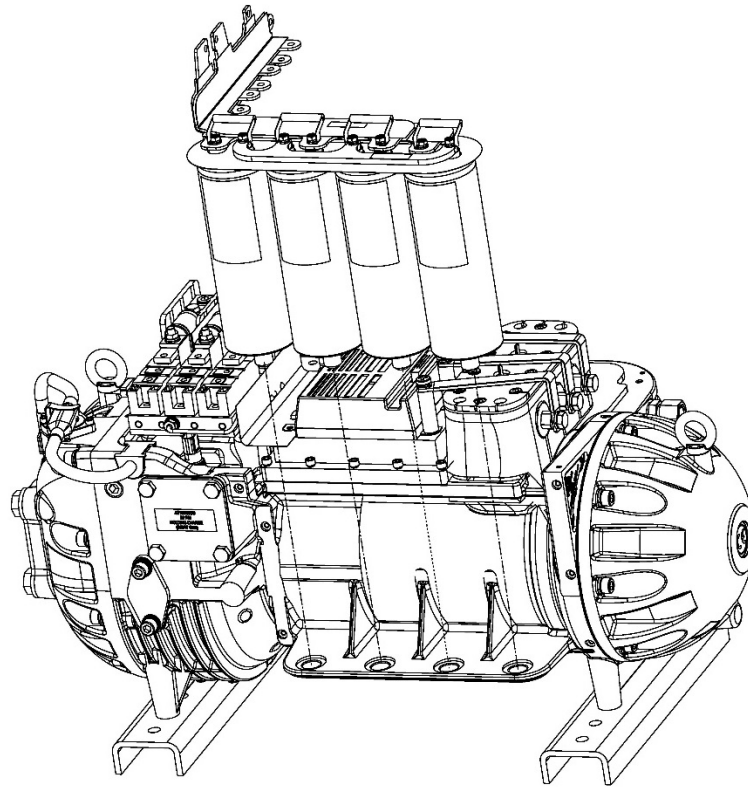

Figure 13 – Capacitor Assembly Removal
25. Carefully lift the DC Bus Bars and capacitors out as an assembly. Refer to Figure 13 (Capacitor Assembly Removal).
20. Reinstall the DC Bus Bar and capacitor assembly over the Inverter. Refer to Figure 13 (Capacitor Assembly Removal).